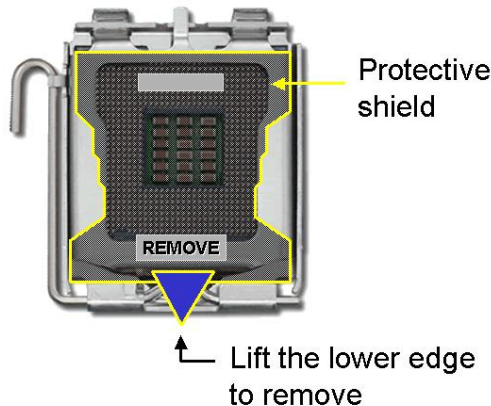

Figure 5-2: Remove the CPU Socket Protective Shield
Step 1: Remove the protective cover. Remove the black protective cover by prying it off the load plate. To remove the protective cover, locate the “REMOVE” sign and use your fingernail to pry the protective cover off. See Figure 5-2.